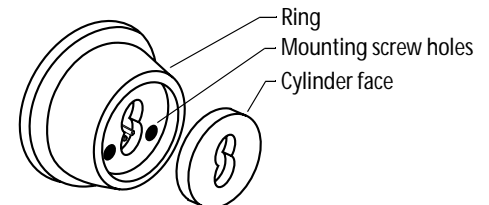

Figure 9 Installing the cylinder face for double-keyed deadbolts and deadbolts with concealed screws
- To cover the mounting screw holes, put the cylinder face into the ring. See Figure 9.